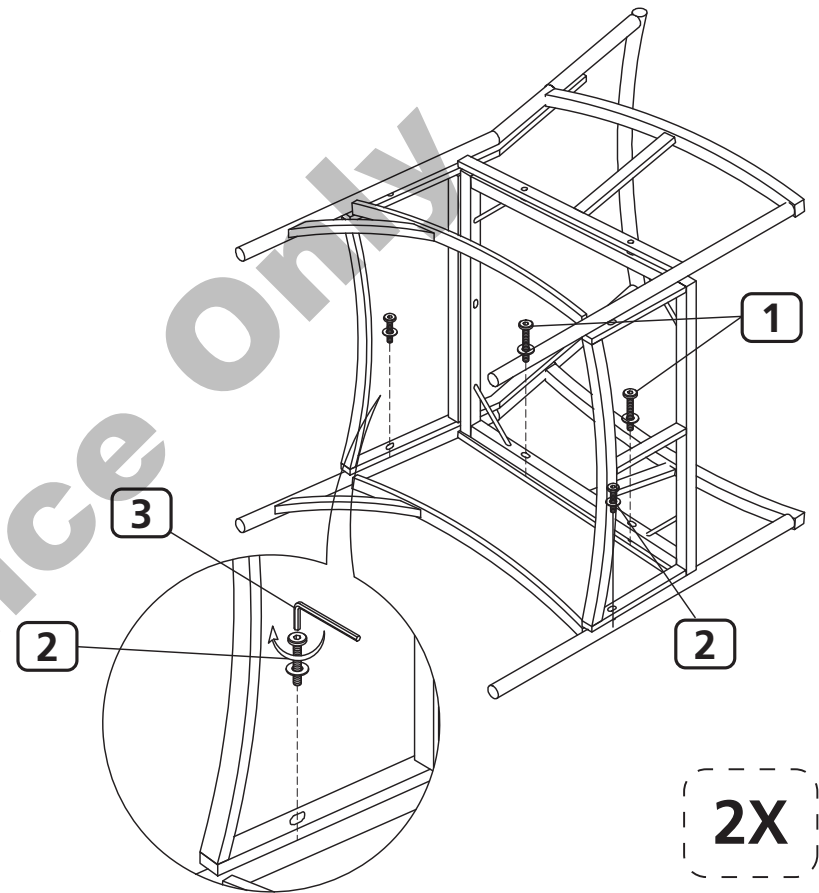

Fig. 3
Insert one M6x25 Bolt (2) with washer through eyelet on the bottom of frame of Chair Back (C), and into the side of the back leg of Armrest (B), see Fig. 3. Tighten all bolts left loose during assembly process using Hex Key (3).